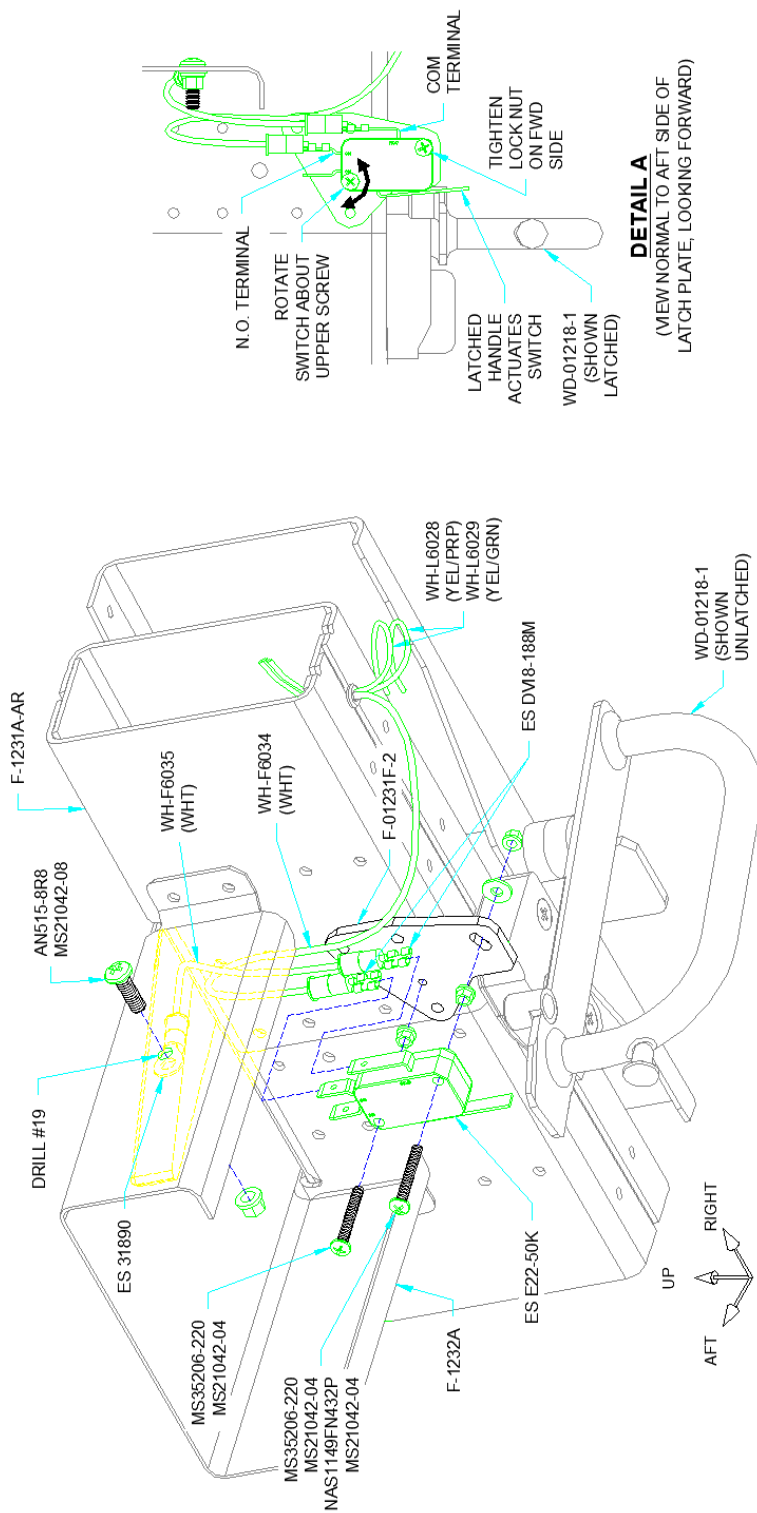

FIGURE 9: CANOPY LATCH SWITCH INSTALLATION
Step 23: Install the micro switch on the F-01231F-2 Latch Plate as shown in Figure 9. Insert the screws into the micro switch mounting holes and thread on the two lock nuts. Orient the lock nuts so that the flanges will contact the latch plate. **DO NOT** apply more than 3 in-lb beyond prevailing torque to the two lock nuts against the switch.
Secure the micro switch by tightening the lock nut against the washer on the forward side of the latch plate. See Detail A in Figure 9.